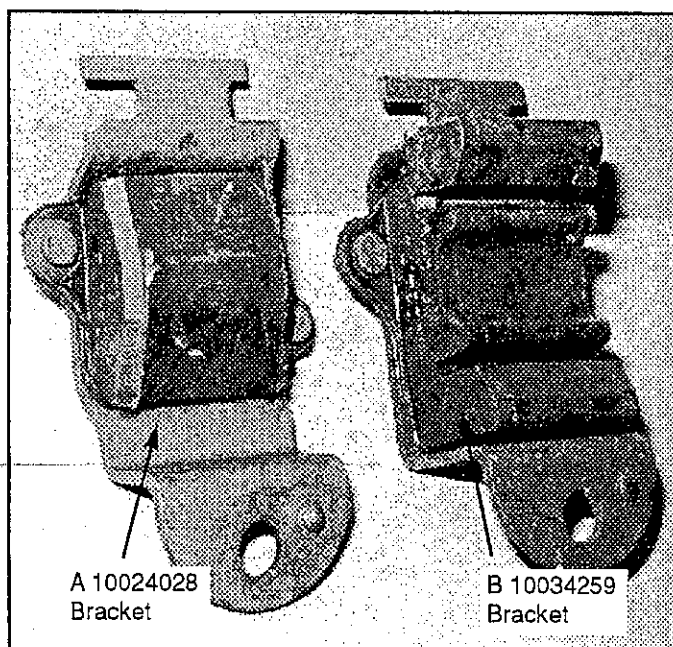
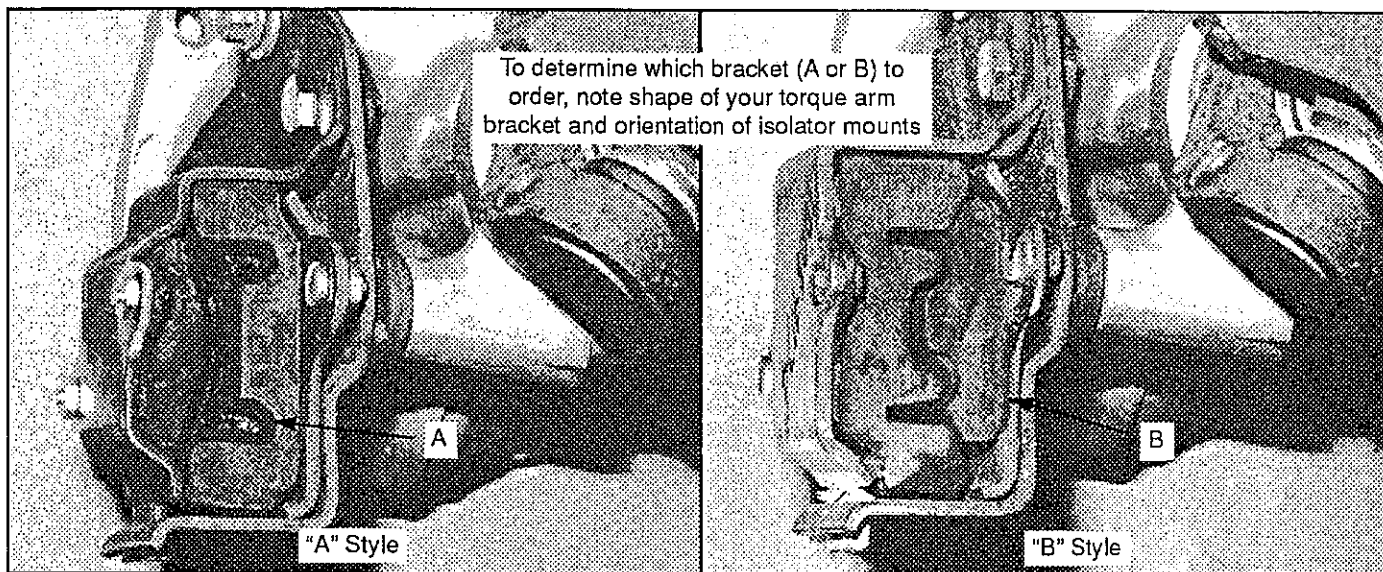
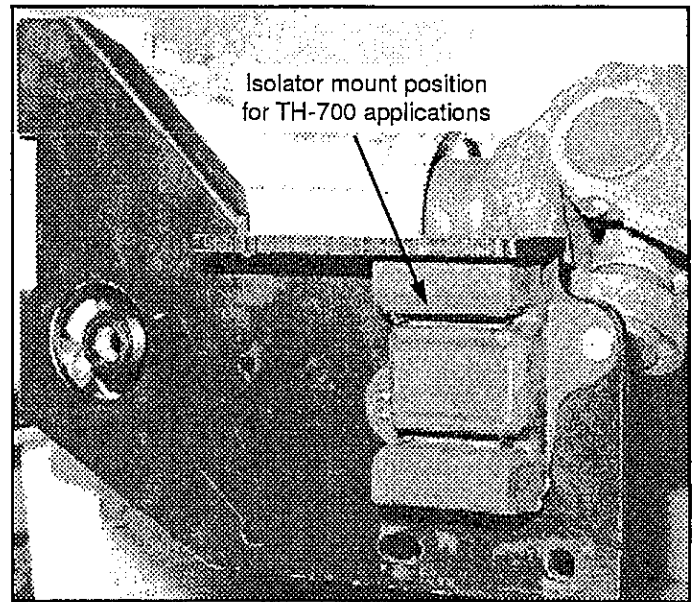

Figure 1A
Figure 1B
Figure 6
**B.** TH-700 Applications. Refer to Fig. 1B to determine which style outer torque arm bracket you have, "A" or "B". The outer arm brackets are not interchangeable because of the isolator's shape. Once you have determined which outer bracket is required, Order the GM part number shown in Fig. 1A (GM #10024028 for type "A" or GM #10034259 for type "B"). Remove the isolator mount from the inner torque arm mount and attach it to the B&M torque arm mount in the position shown in Fig. 6. The new GM outer bracket comes with the isolator mount already attached.